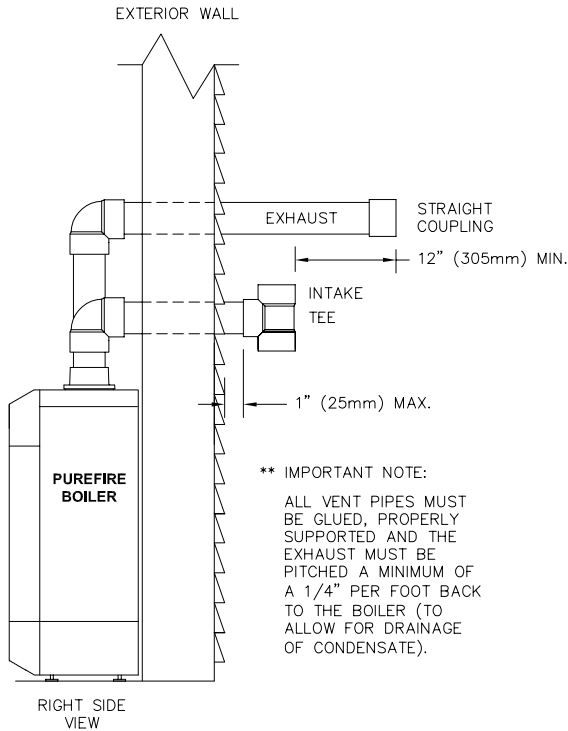

Figure 3.3: Standard Exhaust & Air Inlet Pipe Terminations
- b. Figures 3.3 through 3.6 show approved sidewall venting configurations using the standard fittings supplied.
- Refer to Figures 3.3 through 3.7 for sidewall venting options using PVC or CPVC pipe.